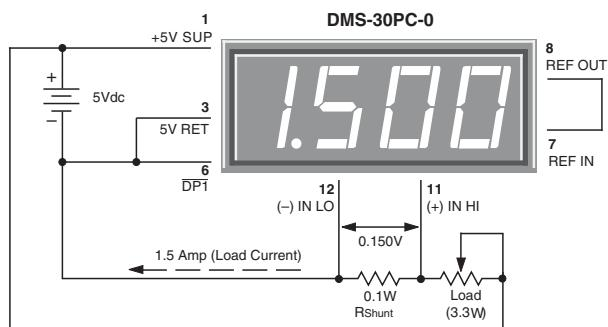

Figure 9. Basic DC Ammeter Circuit
7. **Digital Ammeter:** Digital ammeters are finding ever-increasing usage because analog-style ammeters (moving-vane types) now cost roughly the same as their digital counterparts. Additionally, analog ammeters are not nearly as rugged as modern digital panel voltmeters. Figure 9 illustrates a typical ammeter application. The circuit uses a  $\pm 200mV$  input meter